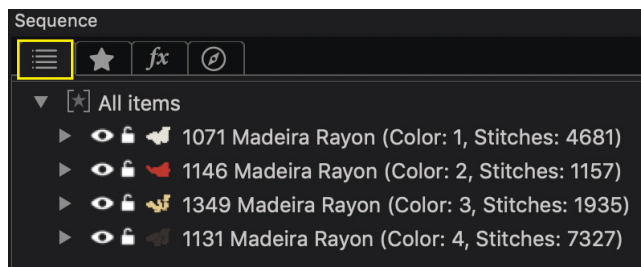

Figure 4
- On the bottom right, you will find the sequence tab, which displays the order of the colors that your design will embroider in. See Figure 4.